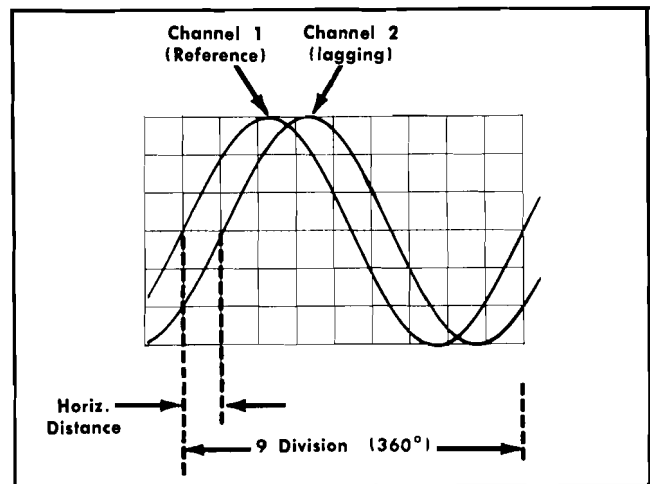

Fig. 2-4. Measuring phase shift.
5. Turn the Variable time/division control counterclockwise until 1 cycle of the reference signal (Channel 1 signal) occupies exactly 9 divisions horizontally. Each division of the graticule represents 40° of the cycle ($360^\circ \div 9 \text{ divisions} = 40^\circ/\text{division}$, see Fig. 2-4).
For example, with a horizontal distance of 1.1 divisions as shown in Fig. 2-4, the phase difference would be: